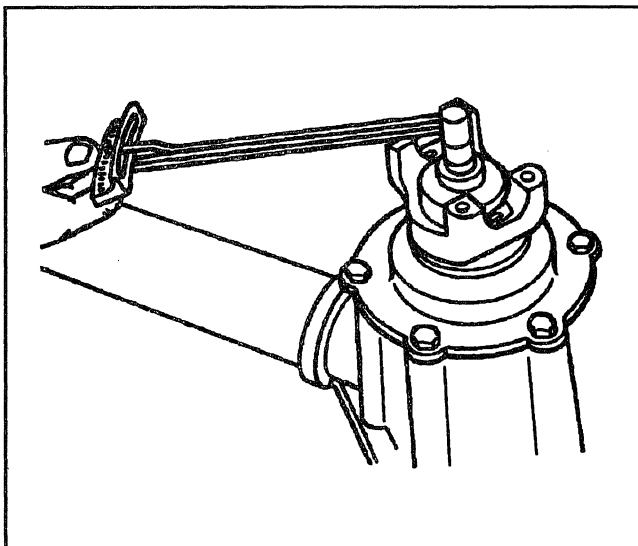
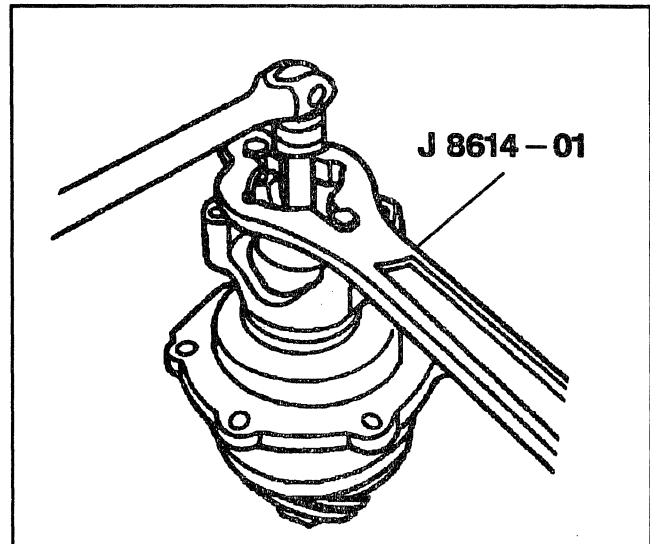

Figure 3—Checking Pinion Preload
Figure 4—Removing the Drive Pinion Nut
- Drive pinion bearing preload and record (Figure 3).
16. Pinion assembly cage bolts (7) and washers (8).
17. Pinion cage (10).
18. Pinion cage shims (11).
19. Pinion flange nut (1) and washer (2) using J 8614-01 to hold the flange (Figure 4).